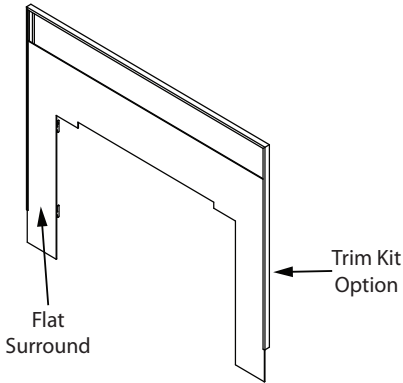

Figure 21.2
- 4. Slide trim over flat surround as shown in Figure 21.2.